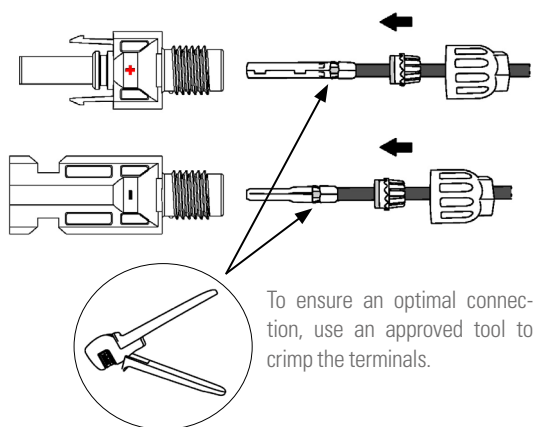

Fig. 39. Crimping the cable.
- d. Insert the DC cable through the DC connector nut on the metal terminal and press the terminal with professional crimping pliers (pull the cable to check if the terminal is well connected to the cable), as shown in Fig. 39: